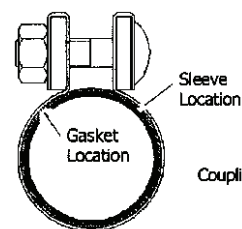

Figure 2
- Make sure sleeve and gasket partings are in opposed positions (Figure 2).